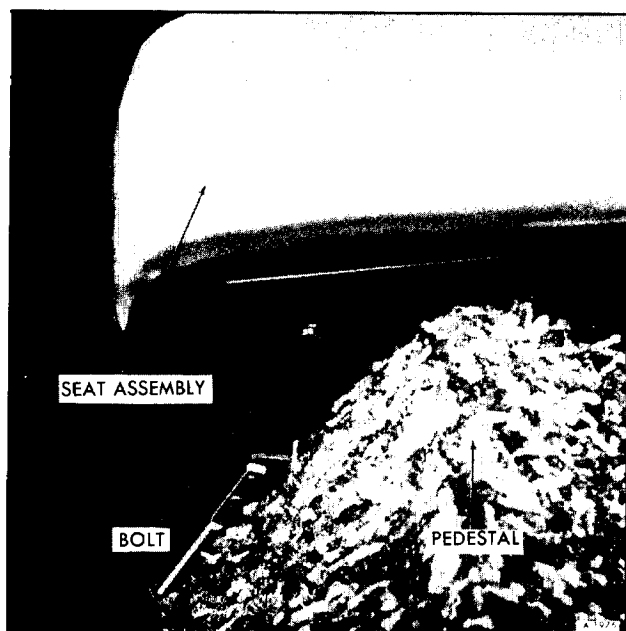

Figure 26-Seat Attaching Bolts
2. This will allow access to the four retaining bolts. Remove four bolts (See figure 26).